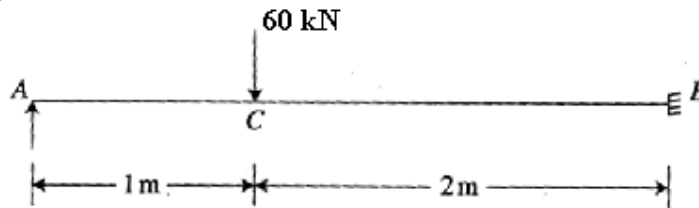

Fig.2
b) Using flexibility matrix method, find the end moments at A and B for the beam shown in fig.2. [8M]